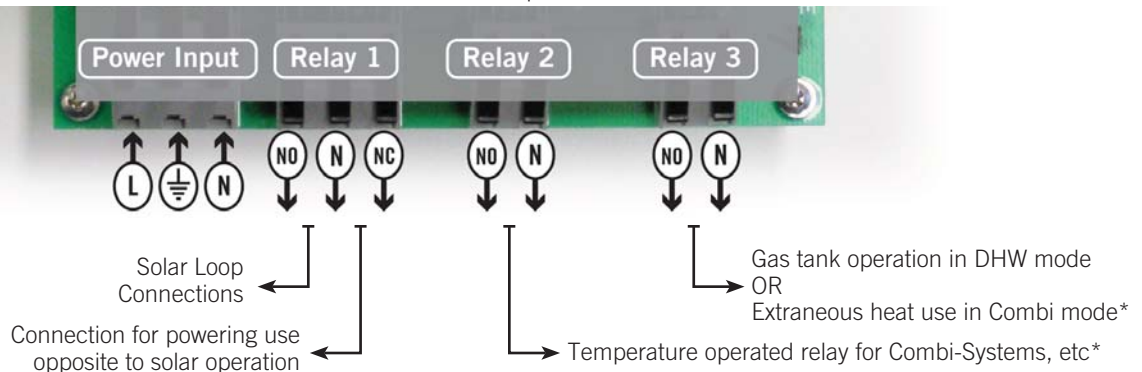

Figure 2. Relay Connections
Wire solar loop pumps into Relay 1, using the Normally Open (NO) terminal on the relay. The Normally Closed (NC) terminal can be used to supply power to a unit for use when the collectors are not heating the storage, like a swimming pool or hot tub. See Figure 2 below, and the reference table at the end of this manual for use descriptions.